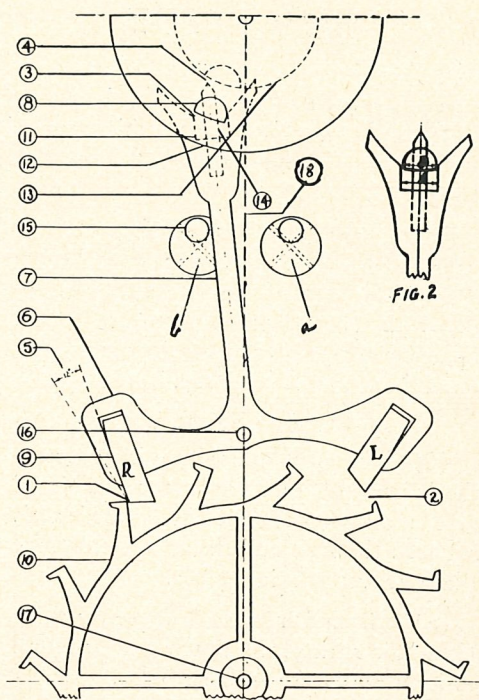

FIG. 1
1. (a) Place fork against bank "b" (Fig. 1) Angle of draw will hold fork against "bank." (No. 5—Fig. 1) With
(2) The escapement is now banked to drop (without "run" or "slide"). (a) With a pointed piece of pegwood, move the fork back and until the escape wheel has made a complete revolution; carefully observing if the "lock" on both pallet stones are equal. (No. 1—Fig. 1) and also if the "drop" space between the let-off corner of the pallet stone and heel of the escape teeth are equal on the "R" & "L" sides (No. 2—Fig. 1) Note: The above check